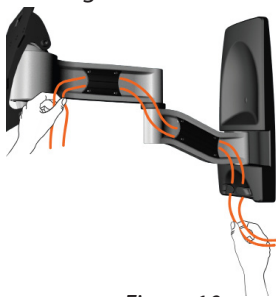

Figure 10
1. Route the **TV Cables** through the **Cable Management Attachments** (x 2) on either side of the **Wall Mount Assembly** and through the **Lower Decorative Cover**. (Figure 10)